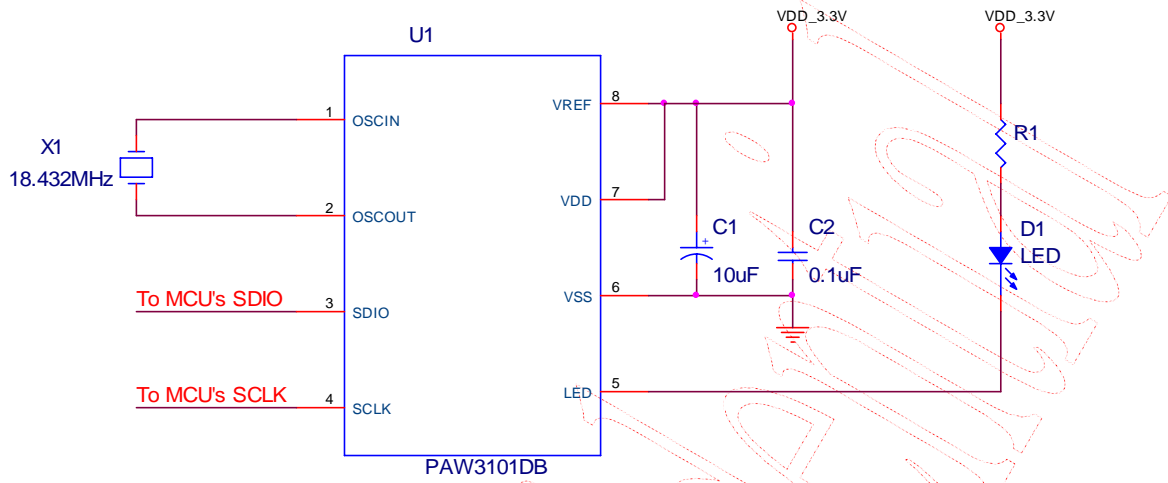

Figure 13. 3.3V Application Circuit with Internal LED Control
- R1 value (ohm) for internal LED control, VDD = VREF = VDD\_LED = 3.3V (refer to Figure 13)